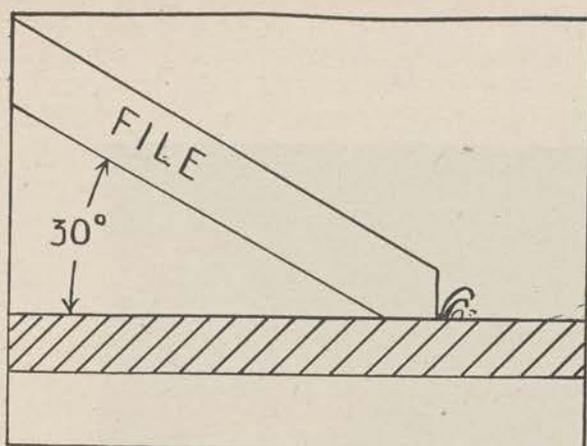

Figure 110.
a. Most interesting effects may be achieved by this method of decoration, using various systems. Outside curves, such as on the signet of a ring or around a bracelet, are most easily done with a file. The file point may also be ground to a point similar to that on a graving-tool and "pushed" in the same manner as a metal graver to engrave shallow designs or initials (fig. 110).